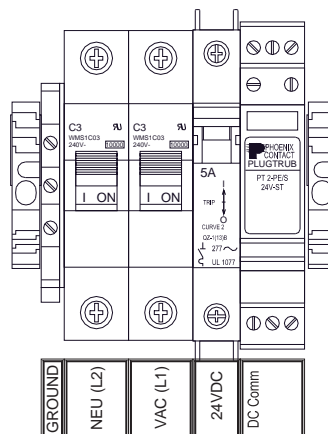

Figure 4 AC/DC Inputs
2. Connect 110/220VAC input wiring to the terminals labeled “ACV (L1)”, “Neutral (L2)”, and “Ground” (Figure 4). The Power Supply is capable of handling AC inputs from 100-240VAC 50-60Hz without degradation.